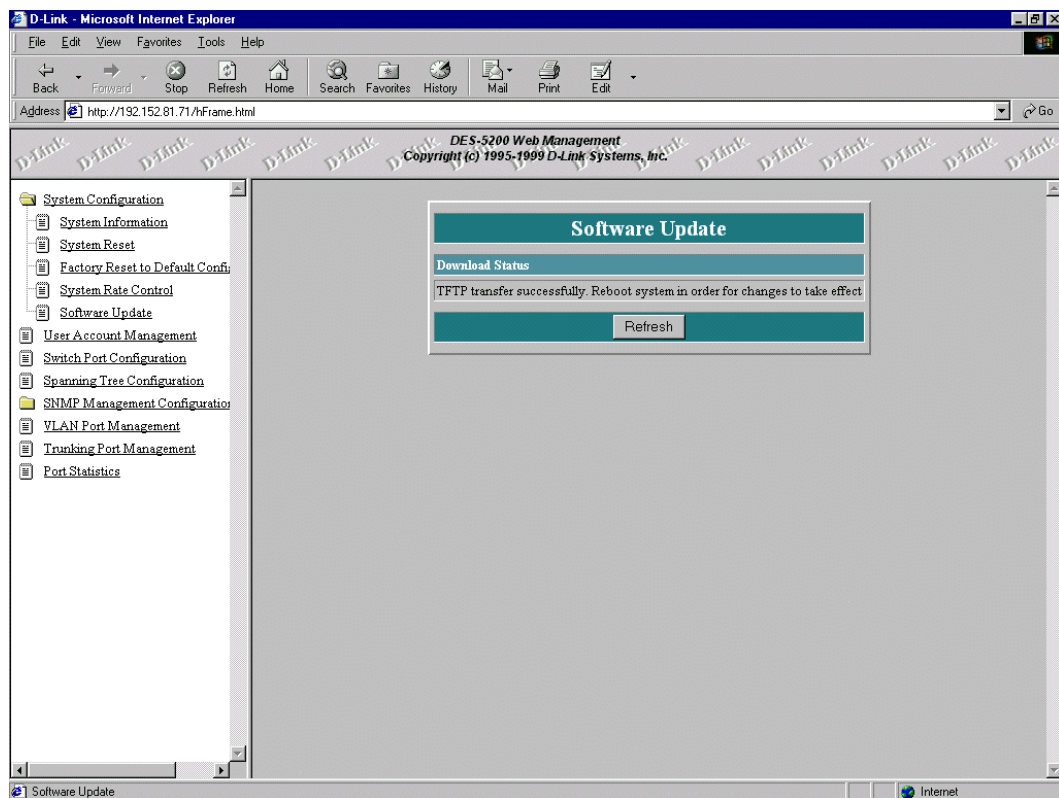

Figure 64: Download Successful
4. When the transfer is complete, reset the DES-5200 for the changes to take effect, see Figure 64.